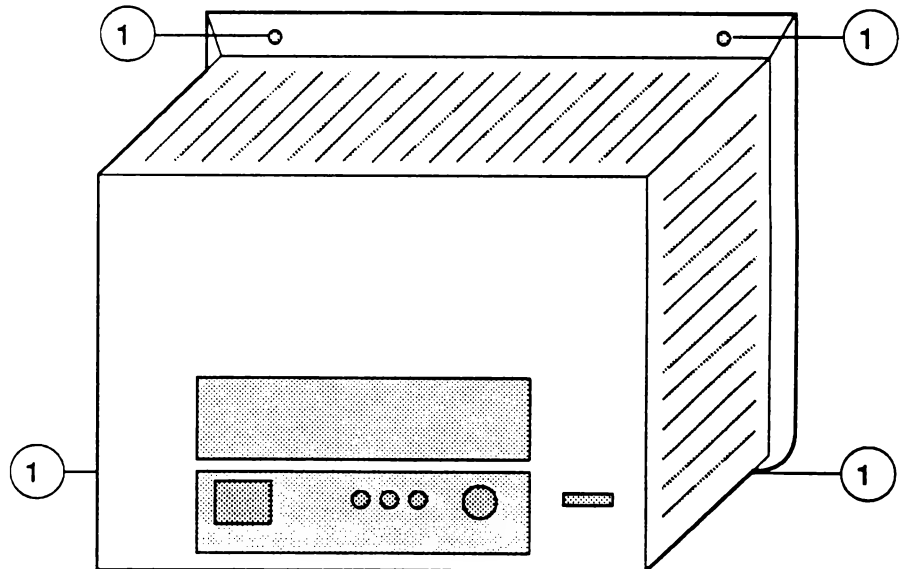

FIGURE 1
4. Remove the four Phillips screws (Figure 1, #1).